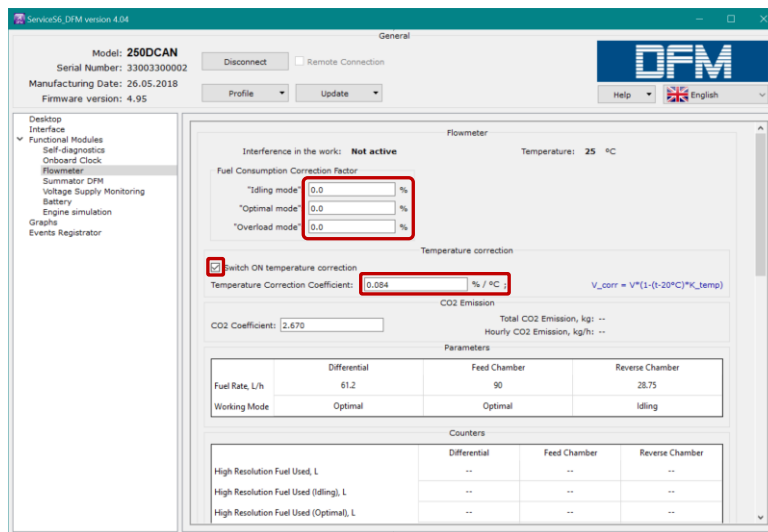

Figure 44 — Example of thermal correction and consumption correction coefficient configuration in Service S6 DFM software
2) Turn on temperature correction function (see figure 44), i.e. automatic correction of fuel volume consumption data adjusted to fuel temperature (SPN 521311).
3) Set correction coefficients of fuel consumption, in accordance with modes of operation (PGN 63303) (see figure 44). This parameter makes it possible to improve the accuracy of **DFM*** fuel consumption measurement, in case of steady too low/too high indications in specific conditions of operation (in conditions of increased vibration level, presence of air in the fuel system, fuel losses in reverse lines from injectors).